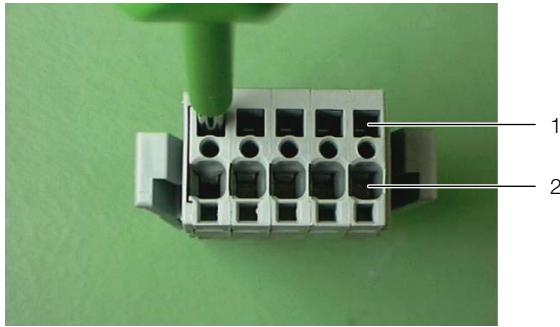

Fig. 80: Connector – rear
- Insert a suitable screwdriver (blade size 3.5 x 0.5 mm) into an activation opening (fig. 80, item 1) and open the corresponding terminal connection of the conductor entry (fig. 80, item 2).